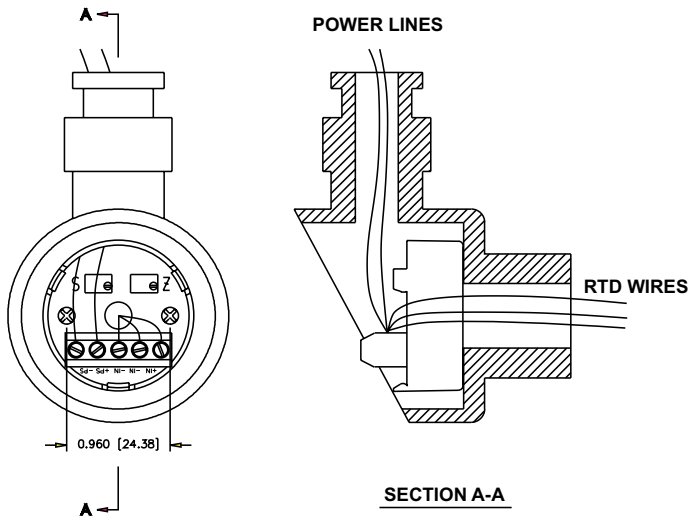

Figure 2-1 Assembly of the Transmitter inside an PR-14 Protection Head
When the transmitter is mounted inside a protection head, (see **Figure 2-1**), two copper wires now carry the temperature signal and dc voltage to operate the transmitter, thereby reducing possible noise pick-up errors.
2. mounted inside a protection head (shown in **Figure 2-1**)